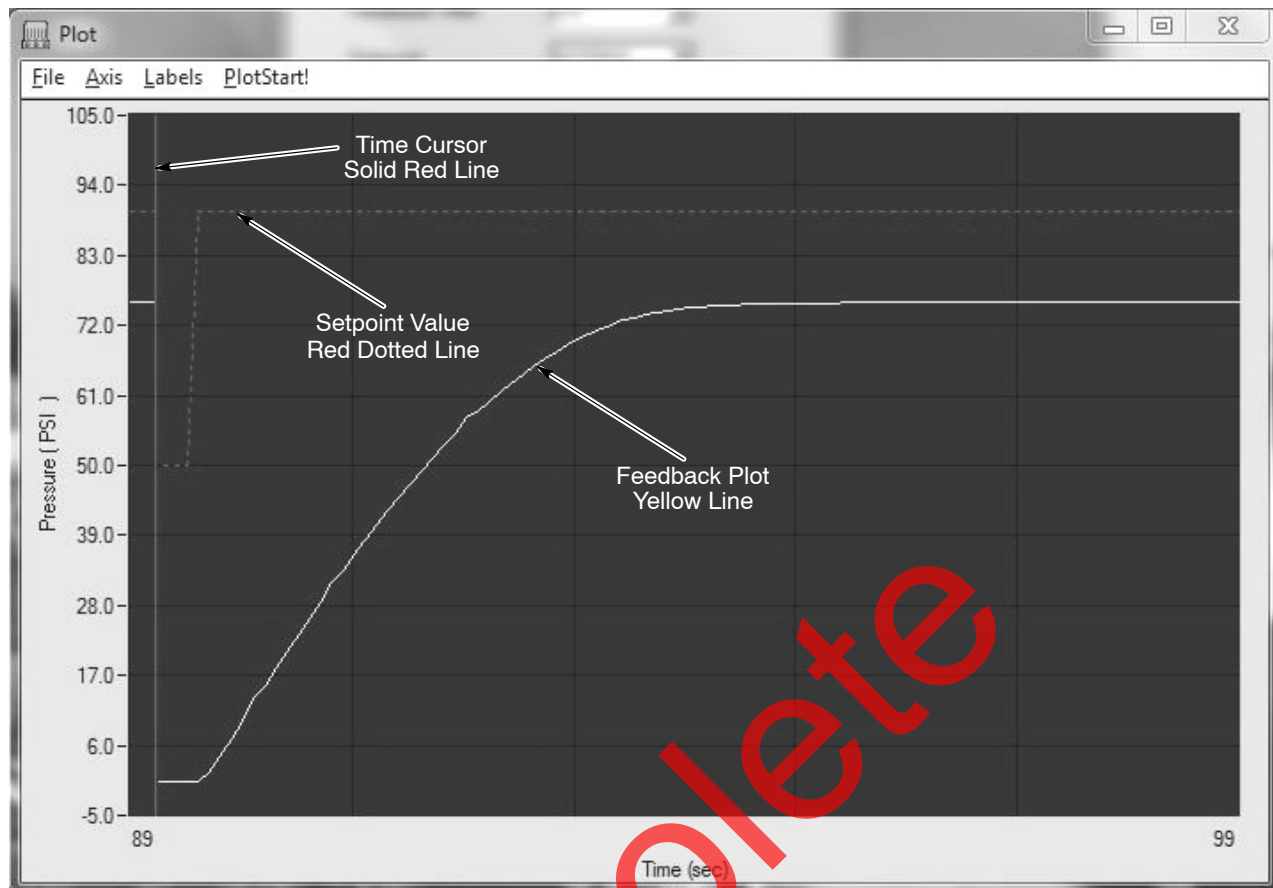

Figure 17 Plot Window
**NOTE:** See Figure 17. The dotted red line in the graph is the setpoint value, and the yellow line is the actual feedback value. A solid red vertical line sweeps across the *Plot* window acting as a time cursor.
2. Click on the *Setpoint 2* button. Then, in the *Plot* window (see Figure 17, observe the feedback plot, represented by the yellow line, for 25 seconds, and verify that it remains at 0.